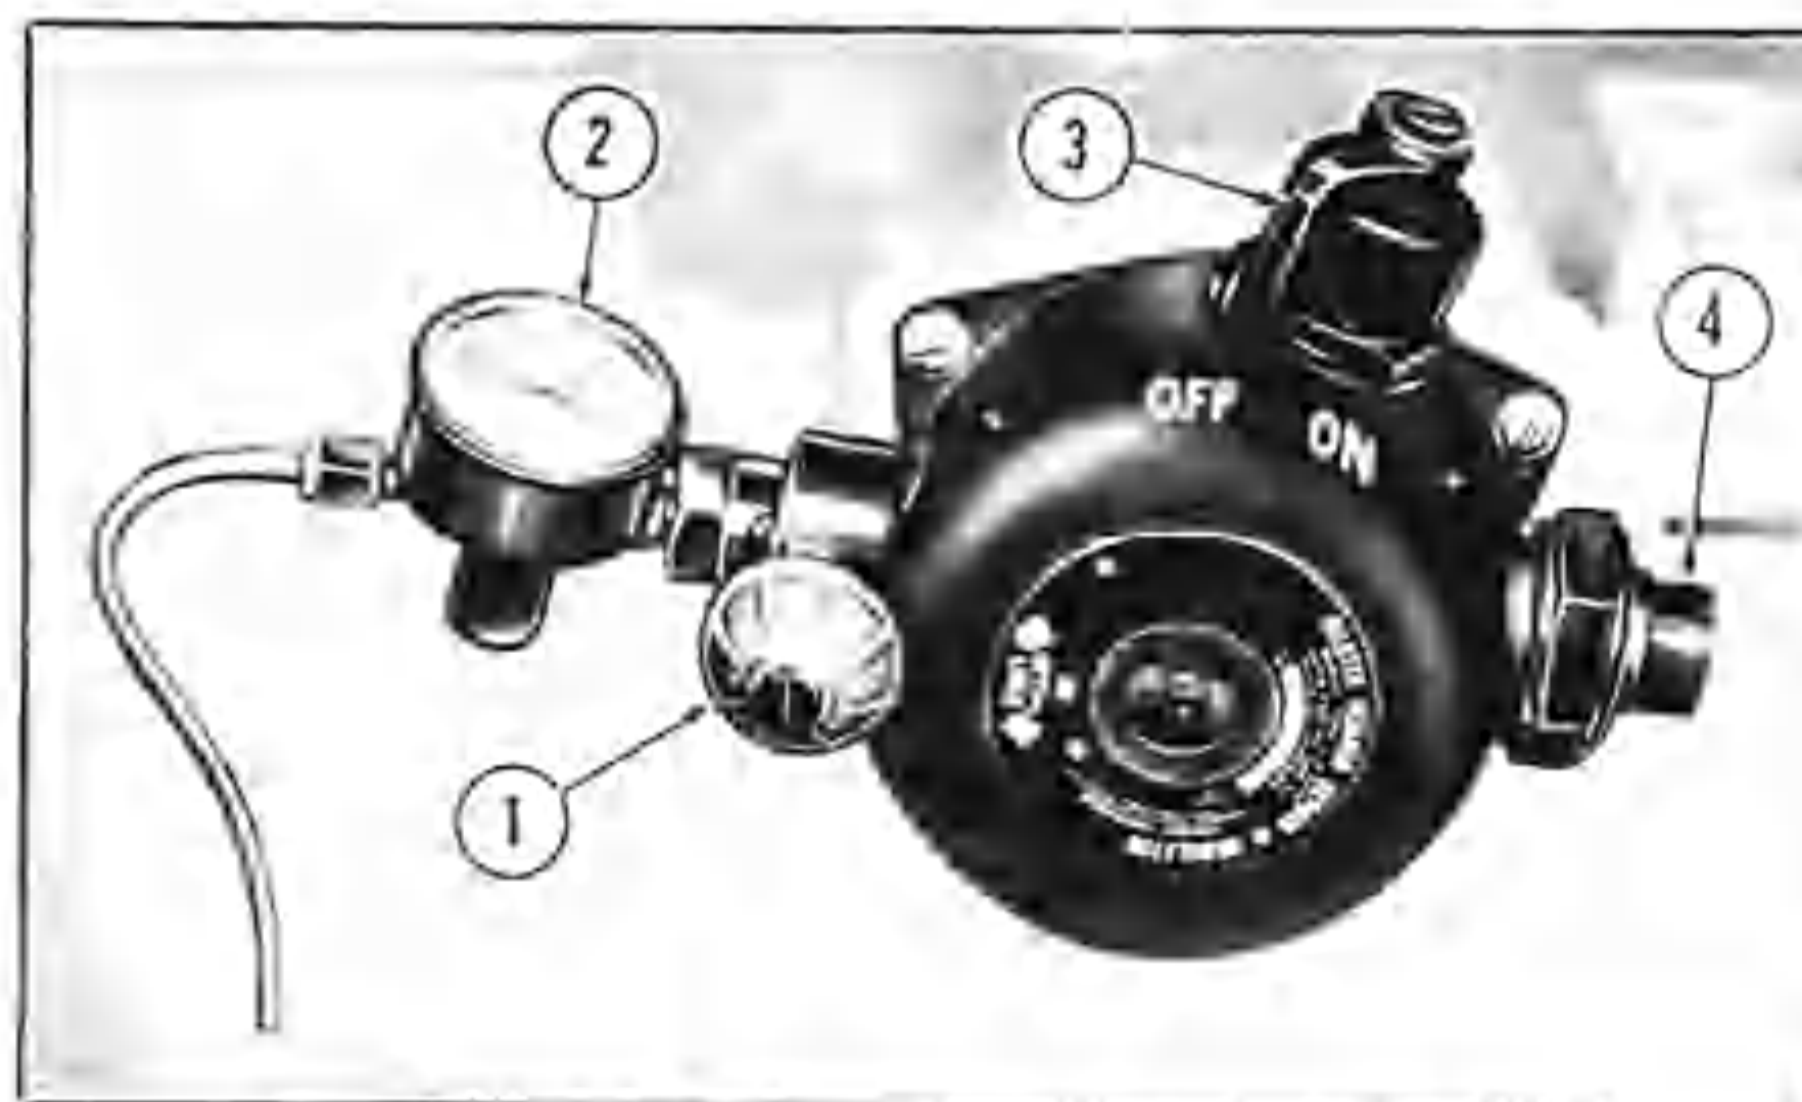

Figure 41 — Diluter-Demand Oxygen Regulator
a. GENERAL. — The oxygen for pilot consumption during high altitude flight is carried in a high pressure bottle under the cockpit floor. The main valve of this bottle projects up through the floor forward of the right side of the pilot's seat. (See figure 29.) The pilot's oxygen mask, normally carried in the cockpit locker (see 10, figure 4) attaches to the diluter-demand regulator on the right-hand side of the cockpit. (See figure 41.)
b. USE OF OXYGEN. (See figure 41.)
(1) The diluter-demand regulator allows outside air to enter the breathing supply system. The
d. OXYGEN SYSTEM CHECK. (See figure 41.)
(1) Check the regulator emergency by-pass valve (1) to determine that it is closed.
(2) Open the cylinder valve. Pressure gauge (2) should read 1800 (plus or minus 50) lb/sq in. if the cylinder is fully charged.
(3) Close the cylinder valve. If the pressure drops more than 100 pounds in five minutes, there is excessive leakage. The system should be repaired prior to use.
(4) Check mask fit by squeezing off the corrugated breathing tube and inhaling lightly. Mask will collapse on face if there is no leakage. **DO NOT USE A MASK THAT LEAKS.** Never check mask fit, as outlined, with **EMERGENCY FLOW ON.**
(5) Open the cylinder valve. Breathe several times to determine whether the regulator is functioning properly. Check the emergency bypass valve (1) by turning the knob counter-clockwise until oxygen flows into the mask. Close the emergency valve.
e. REFILLING OXYGEN BOTTLE. — The oxygen cylinder may be either refilled or removed and replaced. The refill valve is under the cockpit floor and is accessible through the forward fuselage section access door. (See 10, figure 21.) When the bottle is fully charged, the gauge on the regulator (see 2, figure 41) should read 1800 (plus or minus 50) lb/sq in.